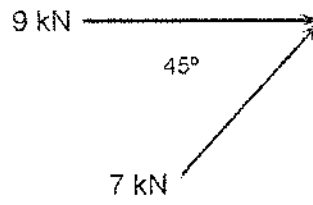

FIGURE 2
- 7.2 Determine graphically the magnitude and direction of the resultant of the two coplanar concurrent forces shown in FIGURE 2, ADDENDUM A (attached). (6)